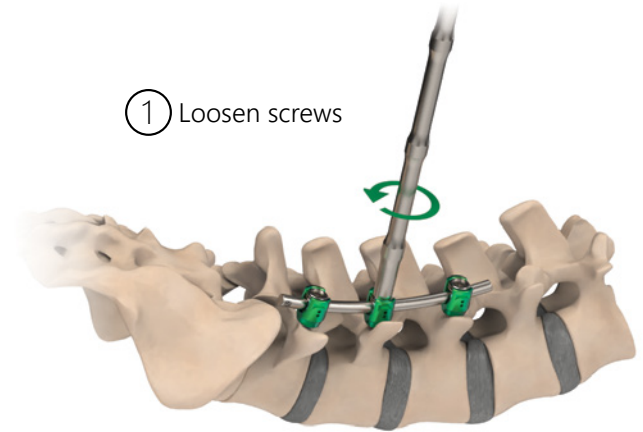

Figure 11.1
1. Remove the Set Screw and Rod by loosening and removing all the Set Screws using the Final Open Driver (Figure 11.1). The Counter Torque wrench can be used to reduce load on the construct.